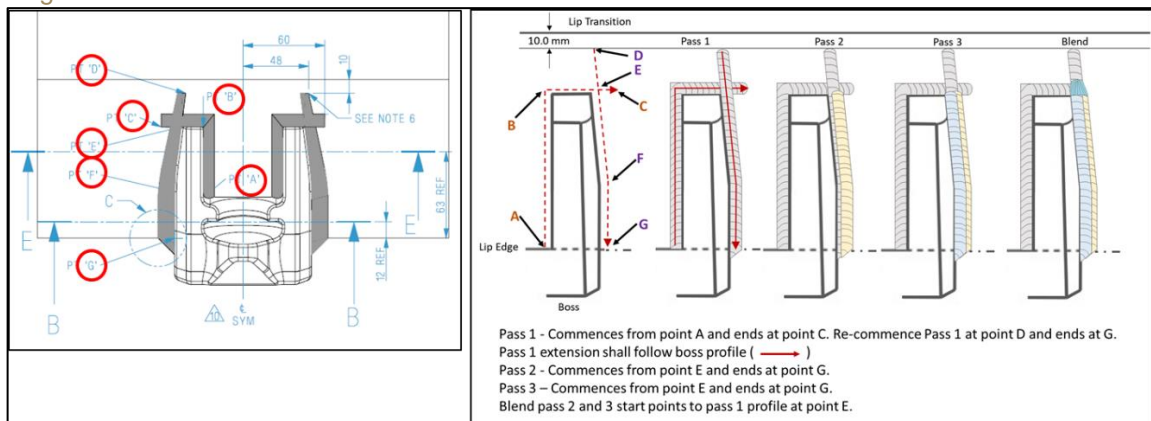

Figure 27 Excerpts from BU00037748 & WPS SS-012
- 2.15.3. Mark all weld points as per Weld Information drawing BU00037748 & Doc# WPS SS-012. Refer Figure 27.